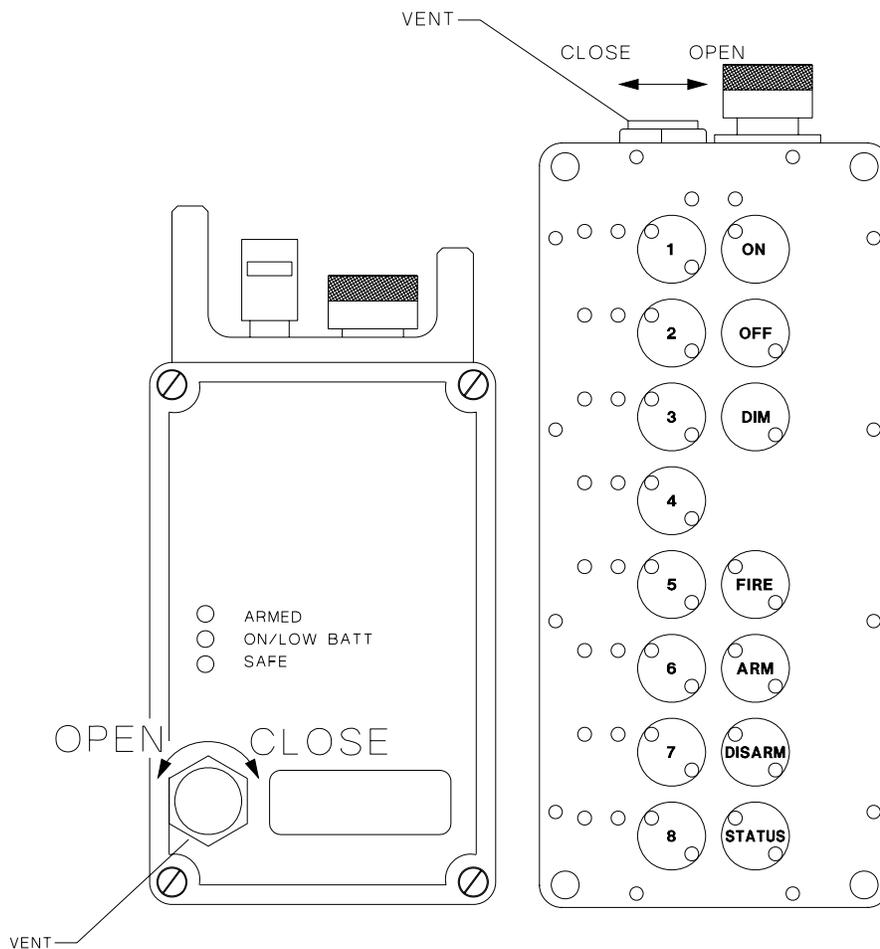

Figure 2-11 Vent Operation.
2.11.1. Figure 2-11. The Controller Unit and Remote Unit vents are manual and relieve internal pressure due to heat and altitude. When the vent is closed, it will not leak in 100 feet of water or up to 30,000 feet in altitude.